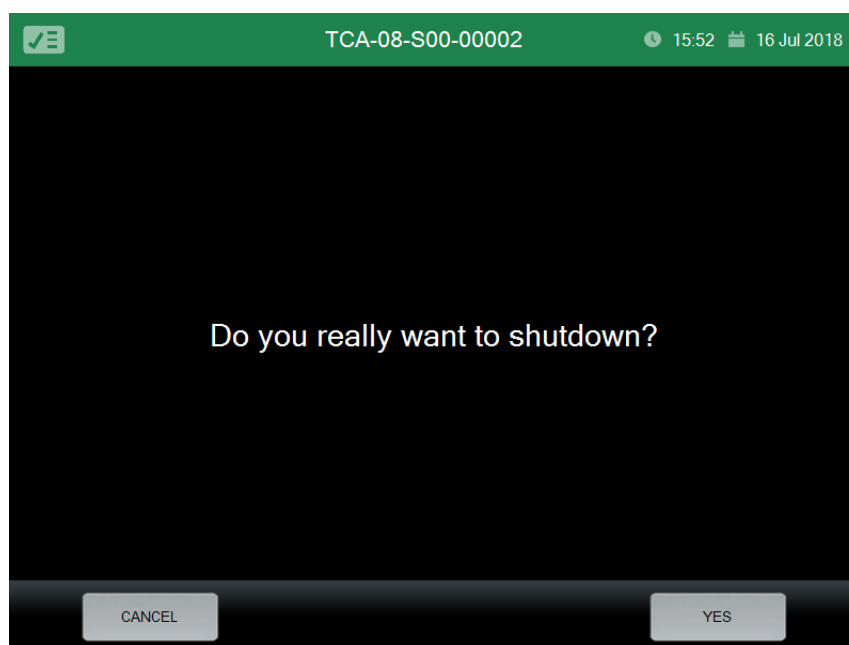

Figure 29. Shut down screen.
- Press the Power ON/OFF icon on the lower left side of the startup screen. The following message is displayed (Figure 29).